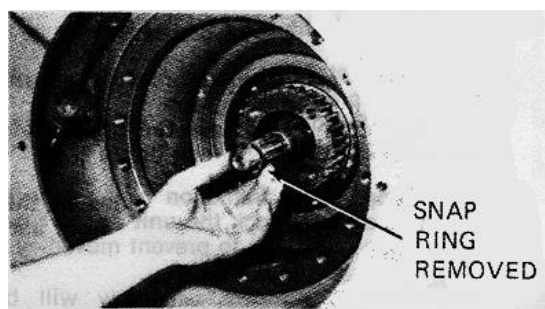

FIGURE 7-72.
f. Remove the hub (12 point) capscrews (C350B only) from the anchor flange and remove the flange from the drive drum. Then remove the brakeshaft outer snap ring (C350B only). Push brakeshaft in so that it will clear the frame for drum removal (see figure 7-72).